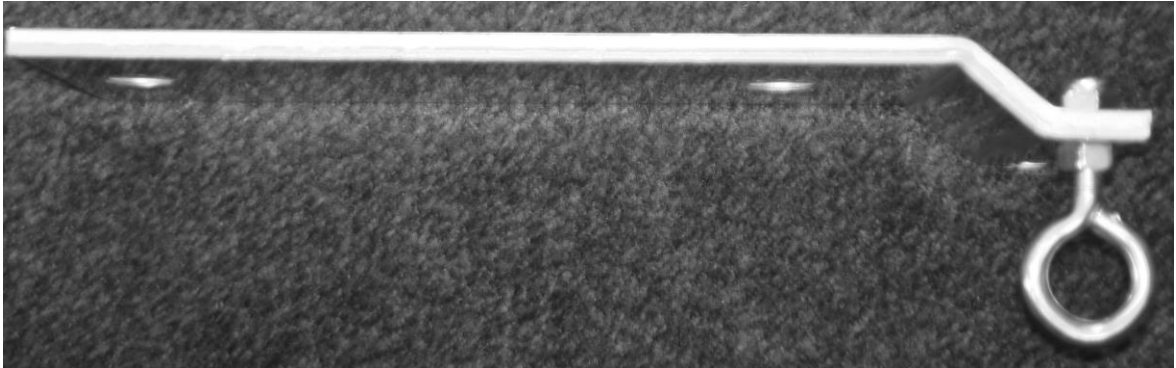

Figure 4
5. Trace the (2) 1/2" holes in the pin plate onto the post, trailer or mounting bracket.
7. Assemble the eye bolt to the strap guide bracket per figure 4 below. Use the provided 5/16" nylock nut on the back side. The center of the eye should line up with the center of the strap channel on the tarp return when fully assembled (see figure 4).